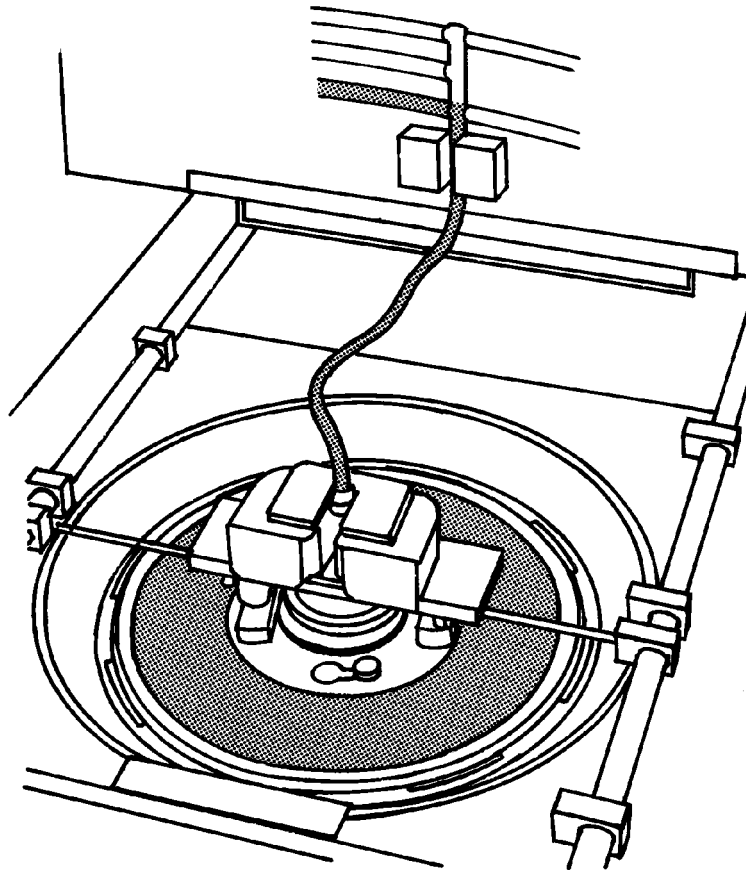

Figure 6-20: Red cell detection
- The RCD detects RBCs (Figure 6-20). The hydraulic pump stops while the centrifuge continues to spin. See “Red Cell Detector” on page 1-6.